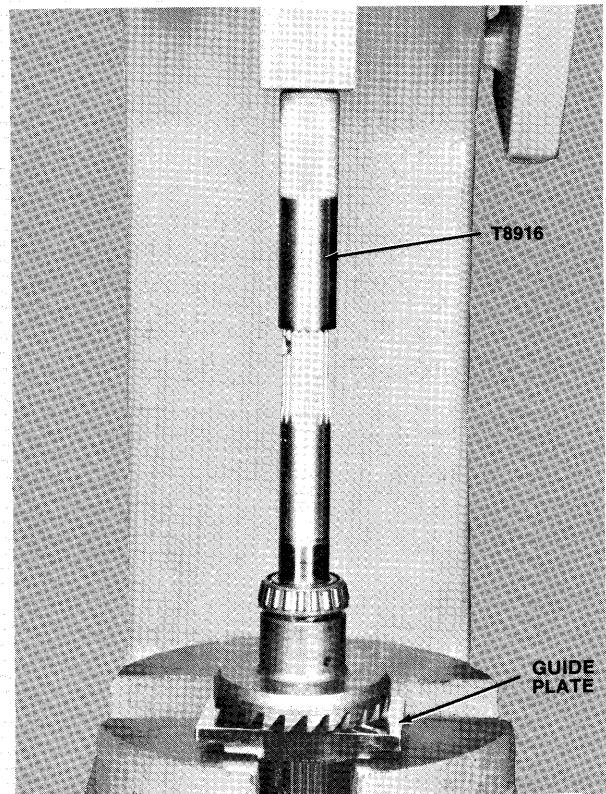

Figure 23—Removing Bevel Gear and Bearings
- D. Press bevel gear—rear and bearings off propeller shaft using guide plate from bearing guide set (Special Tool T8918) as shown in figure 23.